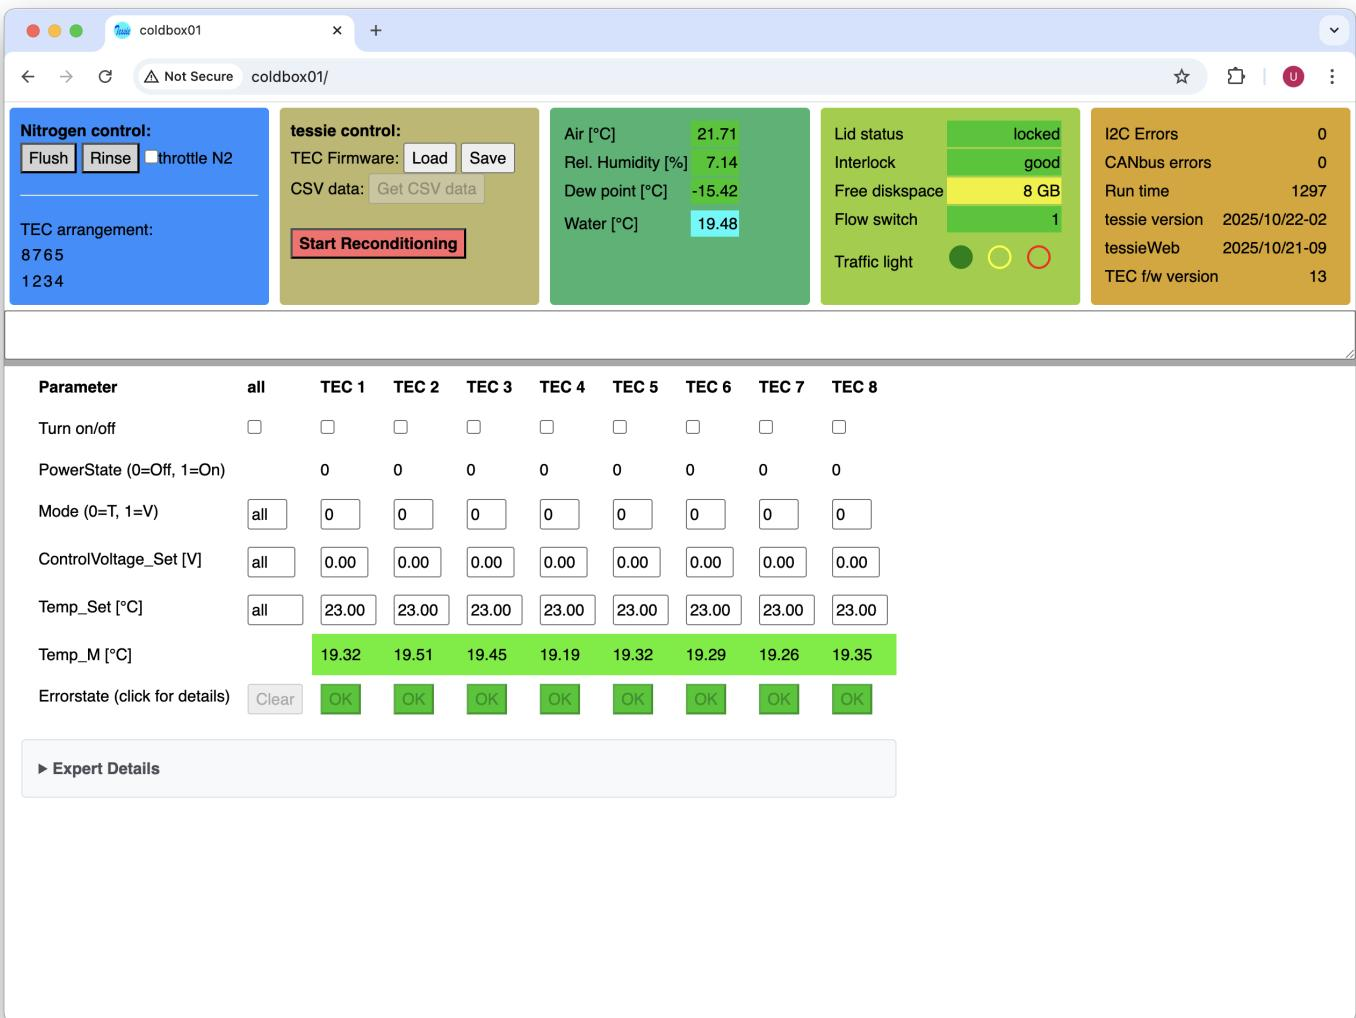

Figure 9: Web graphical interface to **tessie**. The top right brown-yellow box will turn red in case the connection to **tessieWeb** is interrupted.
The normal manual way to interact with `tessie` is through a webbrowser. Point your favorite browser to `http://coldbox03`, cf. Fig 9.
Figure 8: The GUI appearing on the Raspberry Pi touch screen. The interaction possibilities are limited to (1) controlling the N2 flow with **Rinse** and **Flush**, (2) stop operations with "STOP ALL" which will turn off all TECs, turn on maximal N2 flow by opening both the rinse and flush valves, and breaking the HV/LV interlocks, (3) resetting the interlocks, (4) "Quit"-ing the program, and (5) sounding the test alarm. The **Rinse** and **Flush** buttons will have a greenish background color when these valves are open and N2 is flowing. Their font is white in case N2 throttling is active and black in case it is not. For full control of **tessie** you should use the web interface shown in Fig. 9.